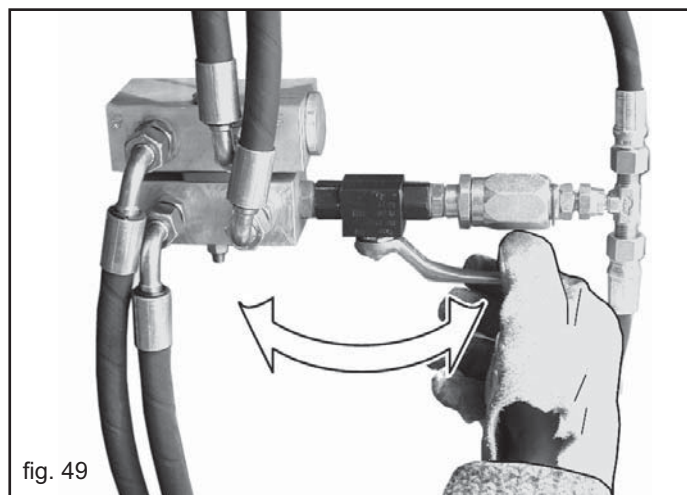

fig. 49
**IMPORTANT!** On the trailed versions, the system is shared with that of the rear trolley, so they are actuated at the same time by the same tractor distributor. A valve at the back of the machine allows the harrow circuit to be opened and closed according to requirements (Fig. 49).
When using the rear seed-covering harrow in the working position, if its circuit is switched off with the valve (Fig. 49), the planter must be raised fully from the ground during manoeuvres.
**With the harrow lowered and the circuit closed by the valve (Fig. 49), the planter must be raised fully from the ground during manoeuvres.**